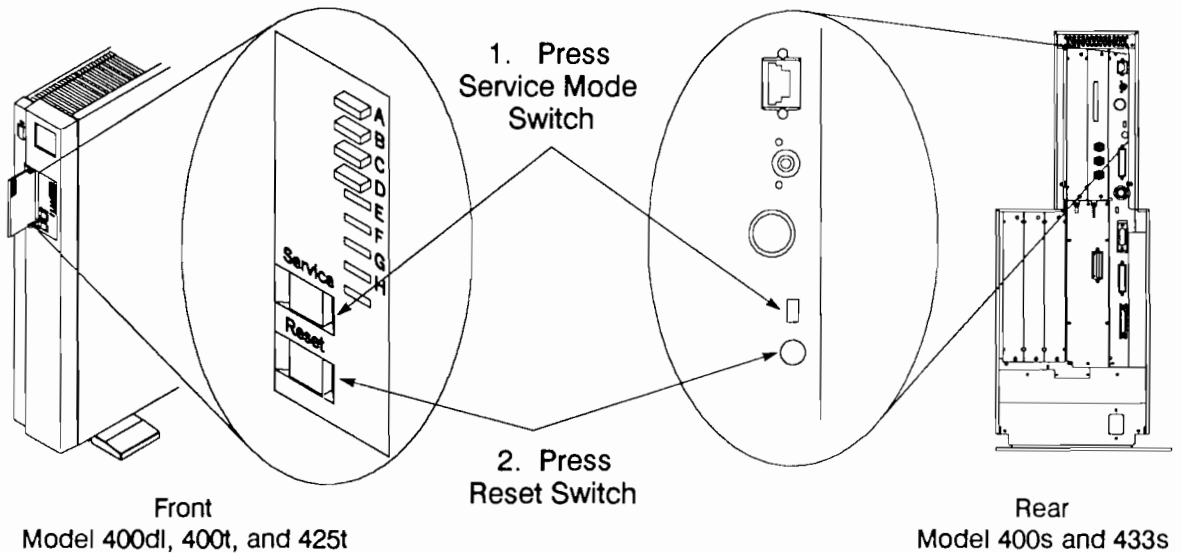

Figure 10-22. Setting the System to Service Mode
1. Before the system finishes running self-tests, press the Service mode switch to set the system to Service mode (the Service LED on the system's front panel lights). Then press the Reset switch as shown in Figure 10-22.